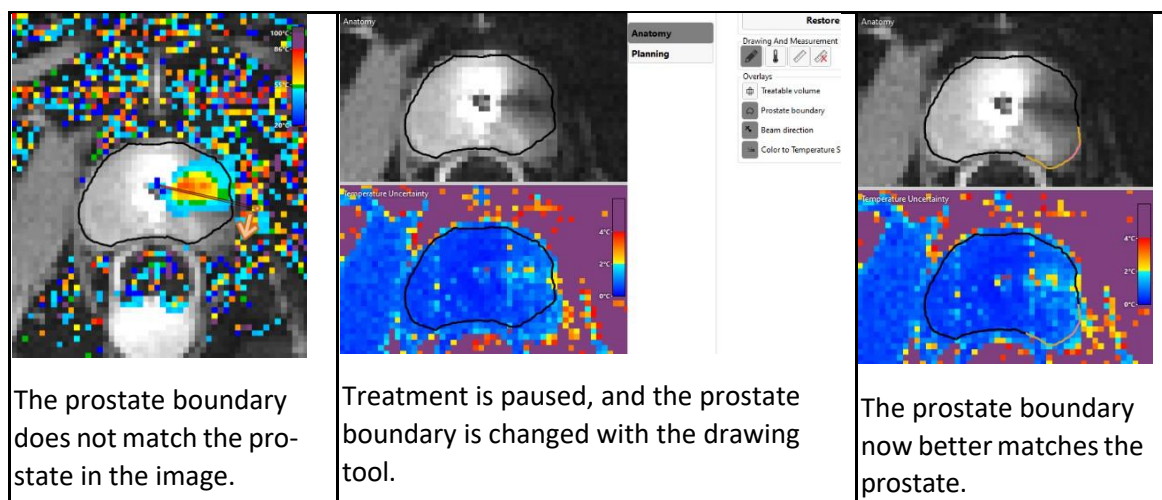

Figure 56: Editing the prostate boundary
3. Click the drawing tool. The TDC displays a new pane showing the prostate boundary contour and the temperature uncertainty for the selected slice (*Figure 56*).